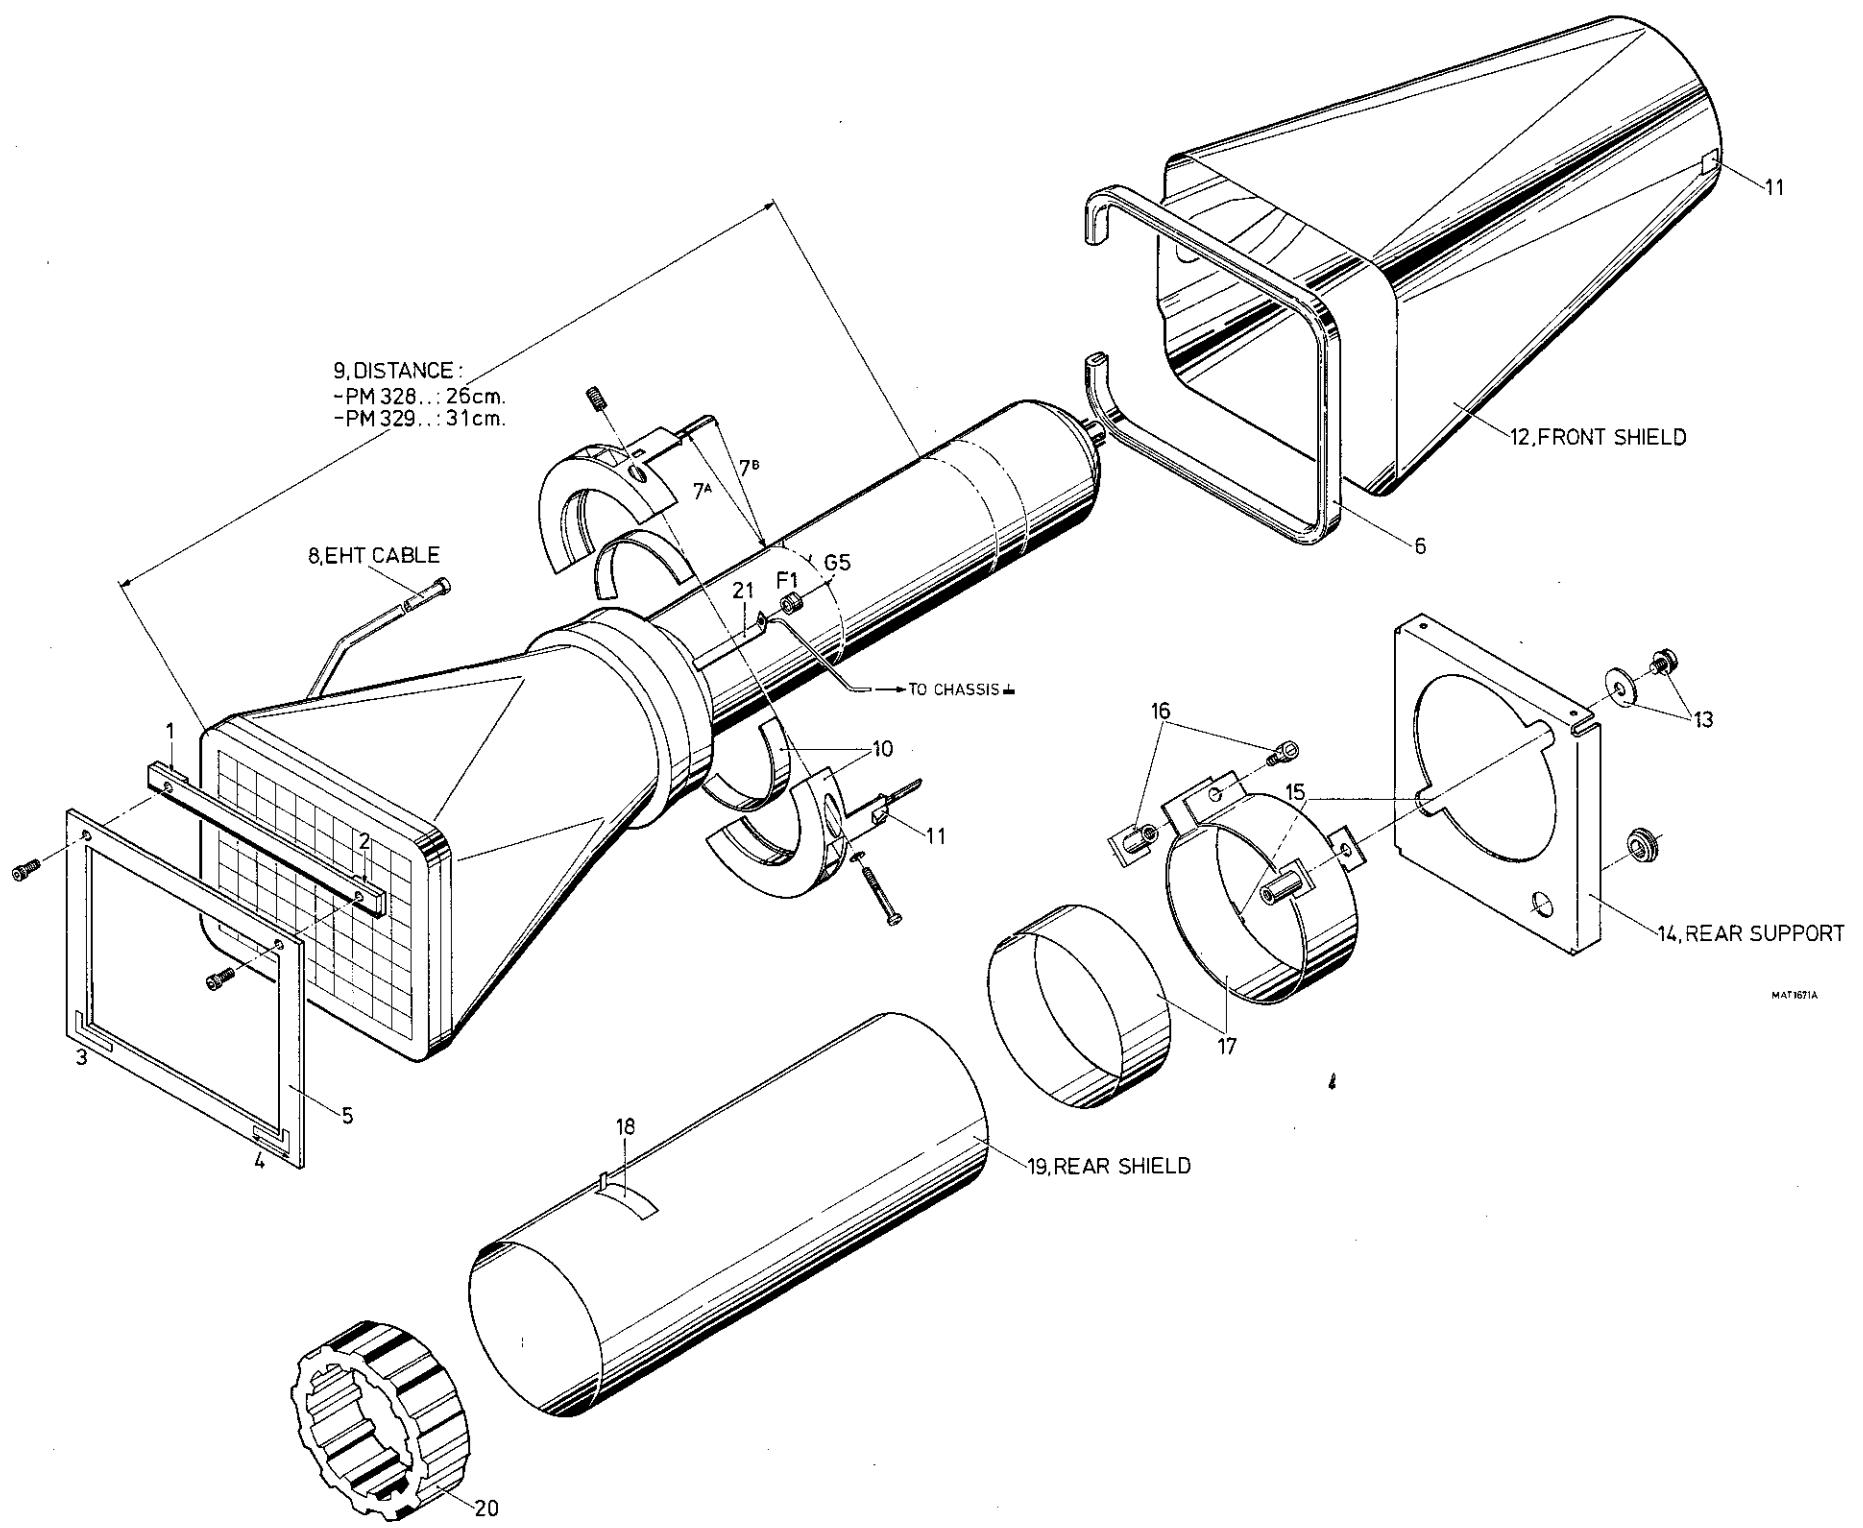

Fig.26.6. Exploded view of CRT and belonging mechanical parts.
IMPORTANT: It is strongly recommended to take notice of this chapter and belonging figure 26.6. before starting the job. Bear in mind that there are slight differences between PM328.. and PM329.. Where it happens, it is indicated.
- Install the positioning ring (10) so that the end of the positioning tags (7B, PM329.) or the indication line on the tags (7A, PM328.) are at the same level as the side connection pins of the CRT (see fig 26.6.). The position of the clamping springs (11) must be so, that the front shield (12) fits correctly into them. When doing this, take care of the correct positioning of the EHT-cable (8) and the trace rotation wires and mount the plastic rim (6). For PM329. the earthing bracket (21) for protection tube F1 must be positioned under ring (10). This bracket also earthens the CRT.
- Put the rubber ring (20) around the CRT. The distance (9) between the ring and the end of the CRT-screen must be 31 cm for PM329. and 26 cm for PM328..